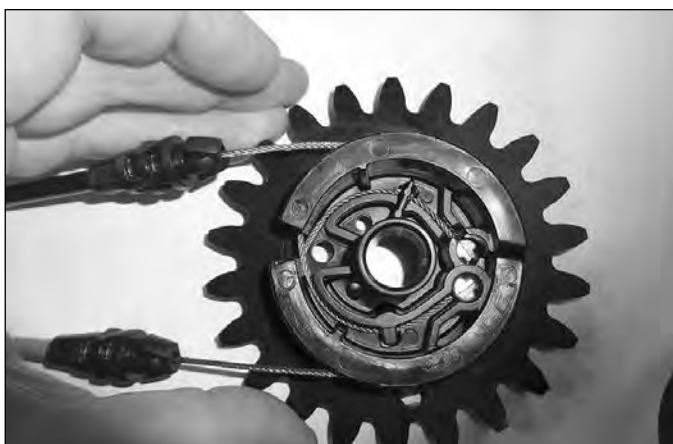

Fig. 031
11. When the cables are routed correctly the cables and gear should look like this (Fig. 031).